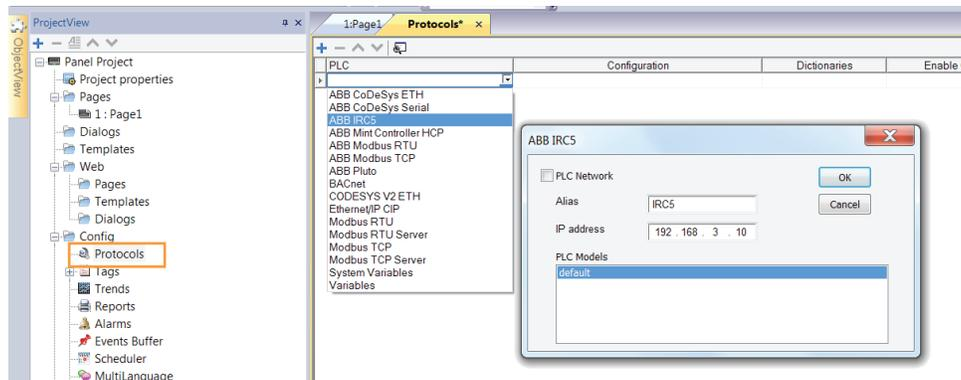

Figure 5- Add and configure the ABB IRC5 communication protocol.
5. Click the add protocol, + icon at the top left of the Protocol tab, and then select the ABB IRC5 protocol from the PLC drop-down list (see Figure 5). The protocol editor dialog will open.